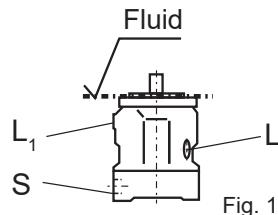

Fig. 1
- If the minimum fluid level is equal to or above the pump mounting surface leave ports "L", "L1" and "S" open (see Fig. 1).